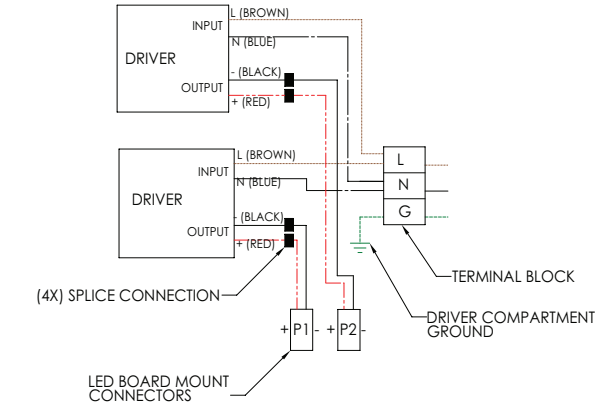

FIGURE 2a
- Close all unused conduit entries with conduit plugs provided. To prevent galling and to ensure water-tightness, lubricate conduit plugs with Cooper Crouse-Hinds HTL lubricant before installing, and secure wrench-tight with at least five (5) full threads engaged (42-52 ft.-lb. for 3/4" plugs, and 58-68 ft.-lb. for 1" plugs).
- Hang LED luminaire on the cover module hinge hook. See Figure 2a.